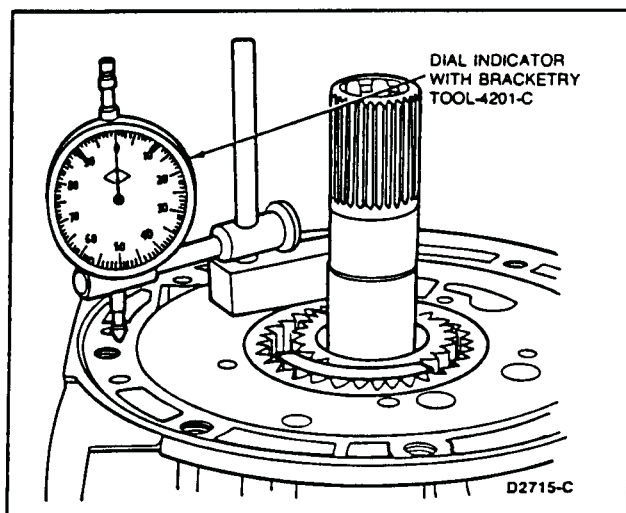

FIG. 19 End Play Check
2. Mount the Dial Gauge Block, TOOL-4201-C or equivalent on the hydraulic pump with the plunger resting on the transmission housing (Fig. 19). Set the dial gauge on zero.